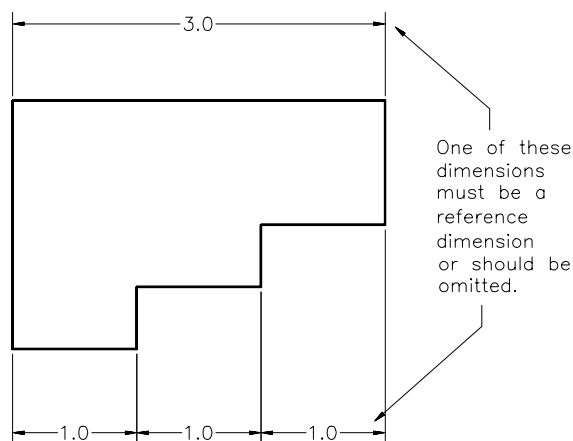

Figure 22-40 Referencing or omitting a dimension
14. If you give continuous (incremental) dimensions for dimensioning various features of a part, the overall dimension must be omitted or given as a reference dimension (Figure 22-40). Similarly, if you give the overall dimension, one of the continuous (incremental) dimensions must be omitted or given as a reference dimension. Otherwise,
there will be a conflict in tolerances. For example, the total positive tolerance on the three incremental dimensions shown in Figure 22-40 is 0.06. Therefore, the maximum size based on the incremental dimensions is $(1 + 0.02) + (1 + 0.02) + (1 + 0.02) = 3.06$. Also, the positive tolerance on the overall 3.0 dimension is 0.02. Based on this dimension, the overall size, of the part must not exceed 3.02. This causes a conflict in tolerances: with incremental dimensions, the total tolerance is 0.06, whereas with the overall dimension, the total tolerance is only 0.02.